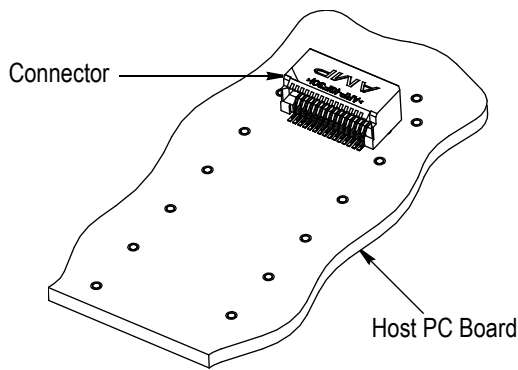

Figure 3
1. Install the connector onto the host pc board according to Application Specification 114-13096. Refer to Figure 3. Solder the connector to the board before seating the cage assembly.